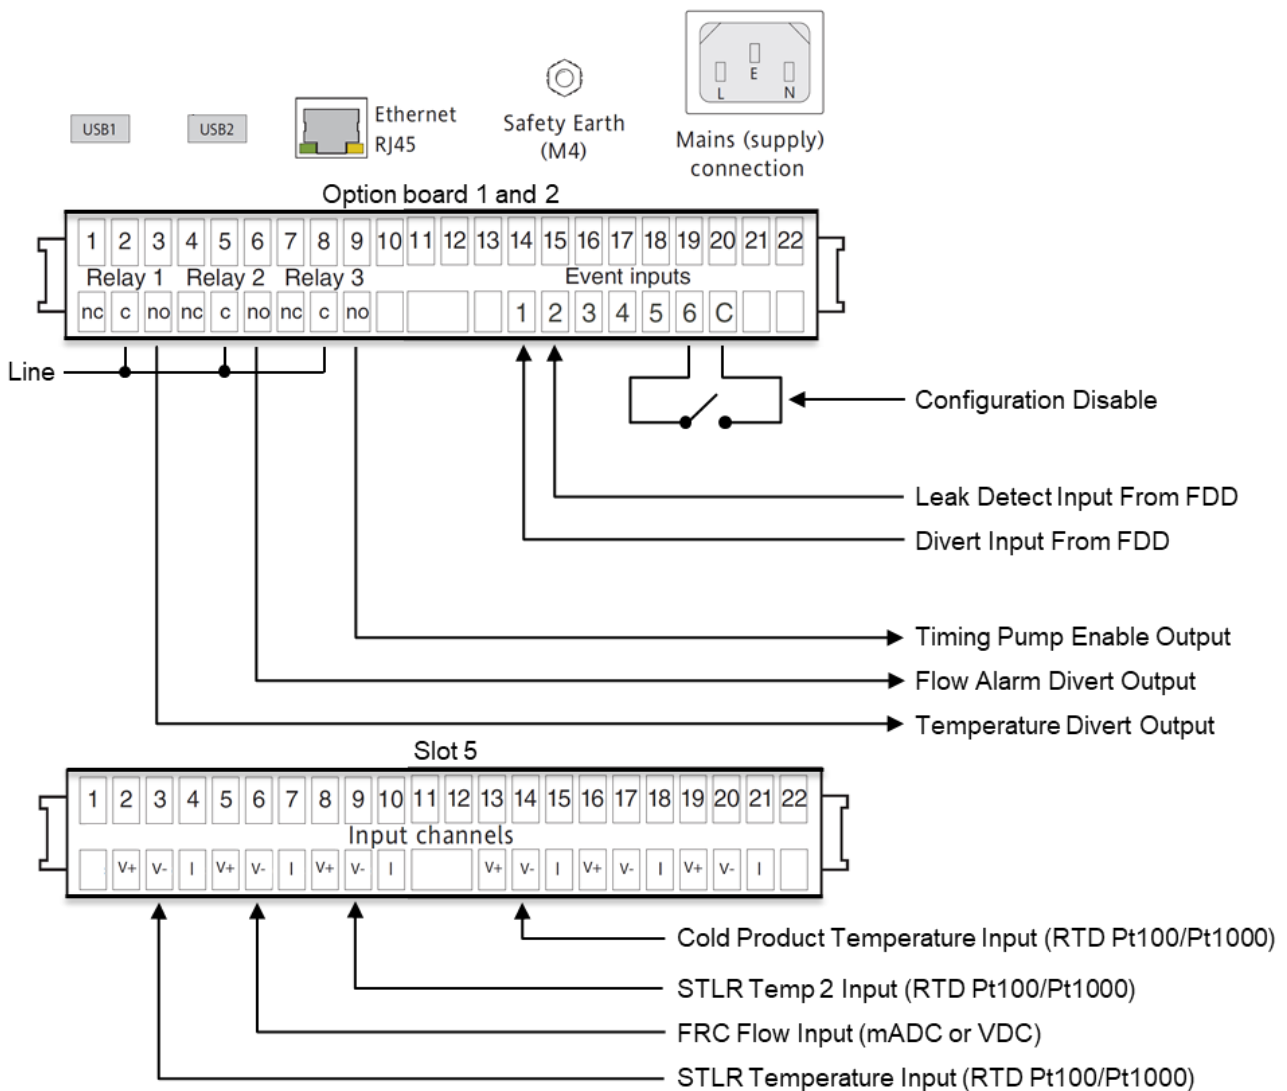

Figure 7 – 6180A standardized STLR+FRC solution wiring example
- For configuration security, a jumper must be applied across the rear terminals of the 6180A STLR+FRC solution (see "Configuration Disable" on figure 7 on page 16) to allow the edit and saving of configuration related parameters that are associated with any process variables being recorded.